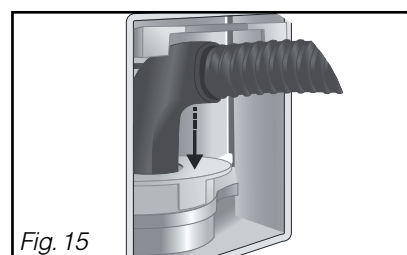

Fig. 15
- Connect the hose from the kit to the end connector on the appliance (Fig. 15)